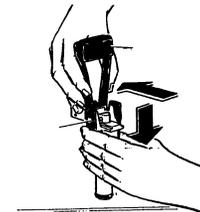

FIGURE 21
27. Remove the tap, holding the body (R) pressed downwards, then slide the lever (L) out of its seating (FIGURE 21). Wash all the parts thoroughly with hot water and mild detergent, rinse them well, and replace them.